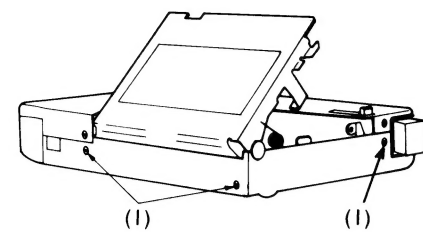

Fig. 7
## HOW TO REMOVE THE BOTTOM CABINET (Shown in Fig. 7~9)
1. Remove the screws (I)×4 (1.4×2)mm. (Fig. 7, 8)